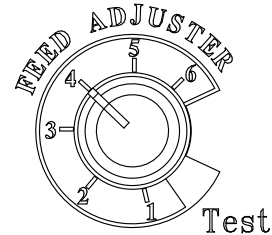

Fig. 17
4. Adjust Feed Rate. If this is your first fire or you are trying different pellets, set the feed adjuster to #4, Fig. 17. This is a conservative number and will probably need to be increased. After you know a feed rate setting that works well, use that setting. Remember, if your feed rate is too high you may waste fuel.